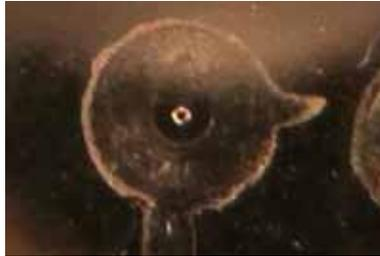

Figure 7-20. Outline of Nozzle with Centered Beam
7. Carefully remove the tape from the nozzle and inspect the hole position in relation to the center of the nozzle and the adjusting screws (see Figure 7-20).